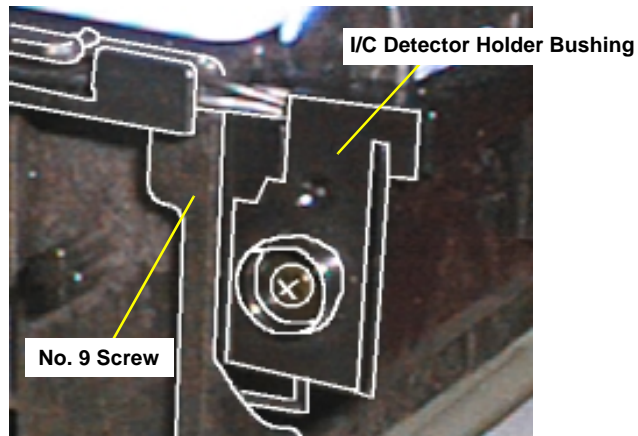

Figure 4-50. Removing the I/C Detector Holder Bushing
- 2) Remove the No. 9 screw securing the I/C Detector Holder Bushing. Then remove the I/C Detector Cables placed along the gutter in the left side of the CR Assembly. Refer to Figure 4-50.